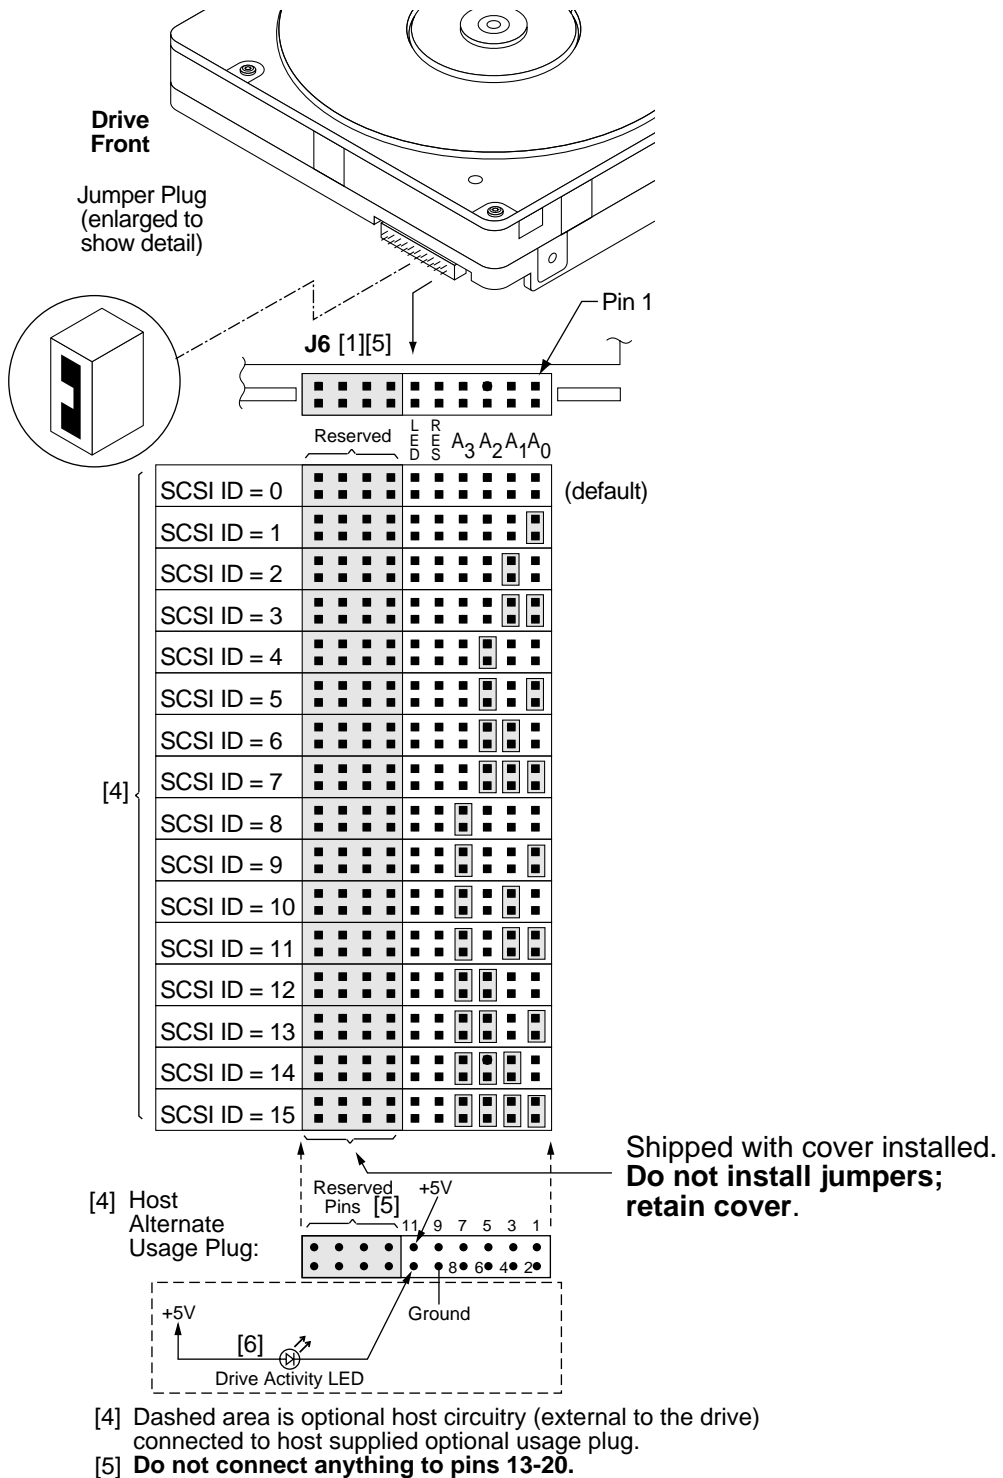
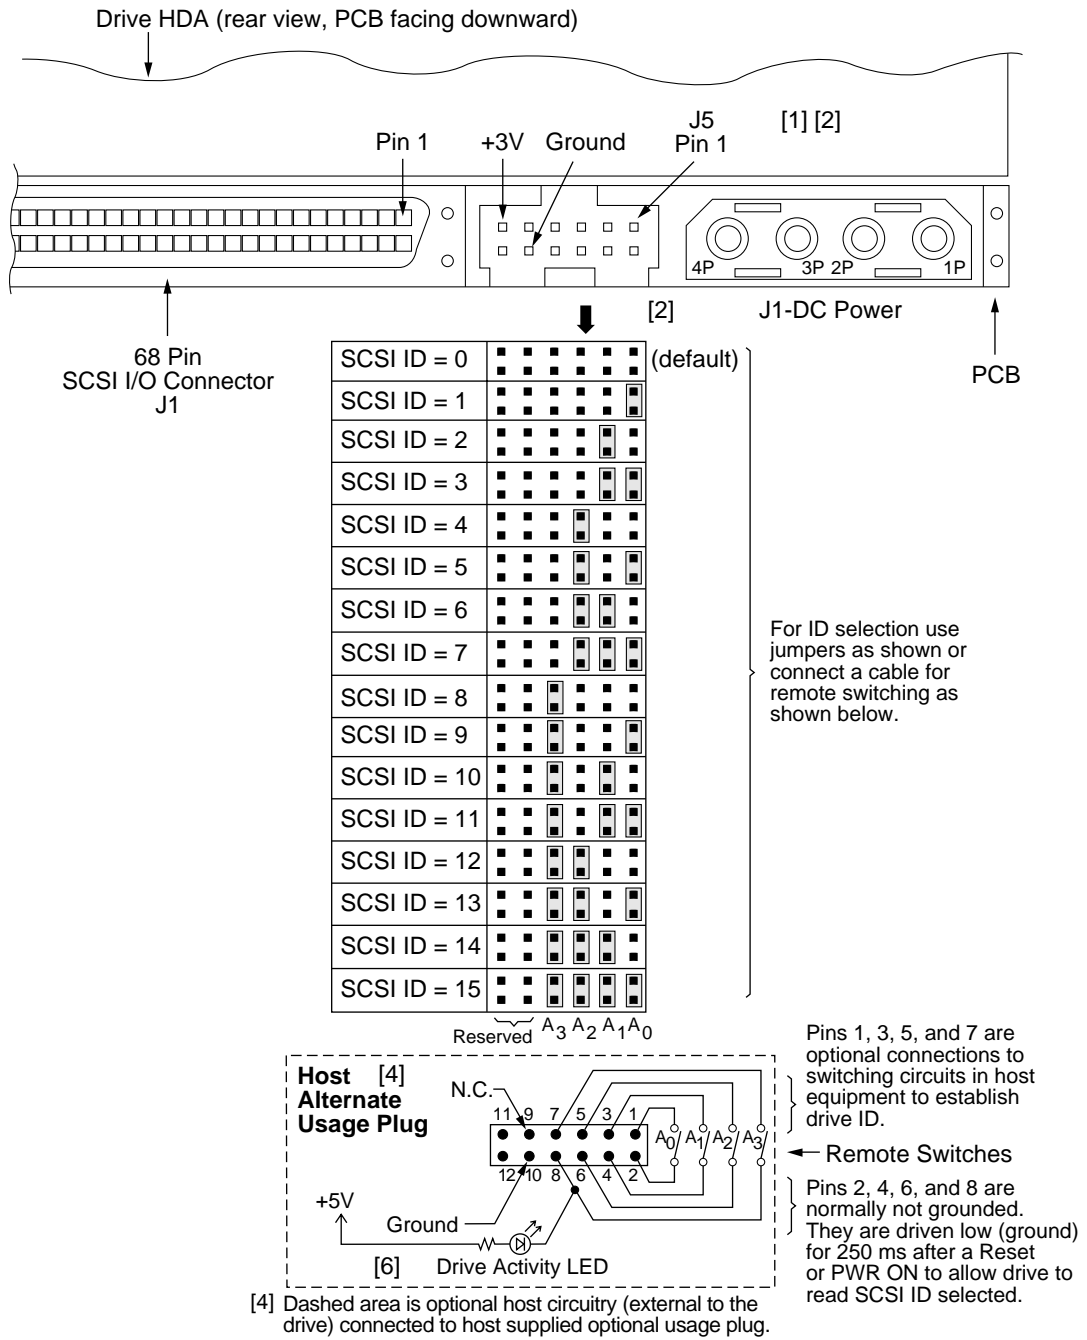
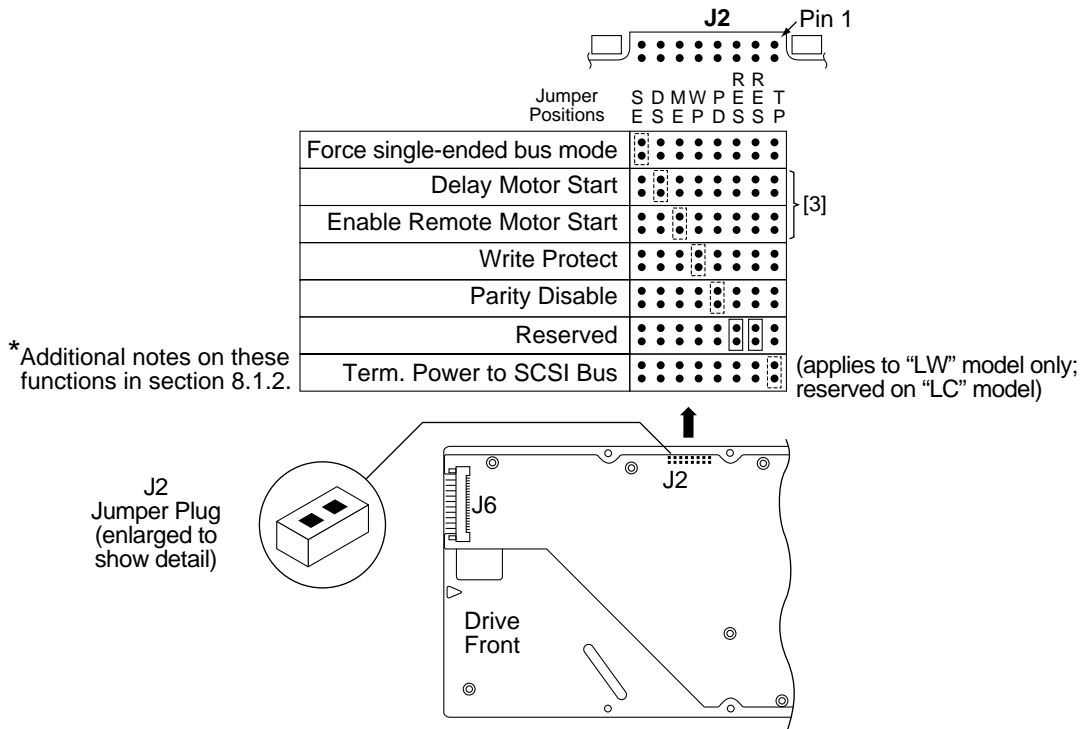

Figure 13. J6 jumper header
Figure 14. J5 jumper header (on LW model only)
Figure 15. J2 option select header
For option jumper locations and definitions refer to Figures 13, 14, and 15. Drive default mode parameters are not normally needed for installation. Refer to Section 9.3.2 for default mode parameters if they are needed.
Figures 13 and 14 show views of the drive ID select jumper connectors. Figure 15 shows the option select jumper connector for all models. Figure 13 shows the drive's J5-Auxiliary jumper connector. Both J5-Auxiliary and J6 have pins for selecting drive ID and for connecting the remote LED cable. Only one or the other should be used, although using both at the same time would not damage the drive. The notes following the figures describe the functions of the various jumper positions on the connectors J2, J5-Auxiliary and J6. Suggested part number for the jumpers used on J2 is Molex 52747-0211 (Seagate part number 77679052). A bag with the two jumper plug types is shipped with the standard OEM drives.
8.1.1 Notes for Figures 13, 14, and 15.
- [6] Connect an external Drive Activity LED to J6 pins 11 and 12 (see figure 13), or to J5 pin 8 (see figure 14) and the drives +5V power source, through an appropriately sized current limiting resistor. The drive provides an internal 150 ohm current limiting resistor for the J6 connection.